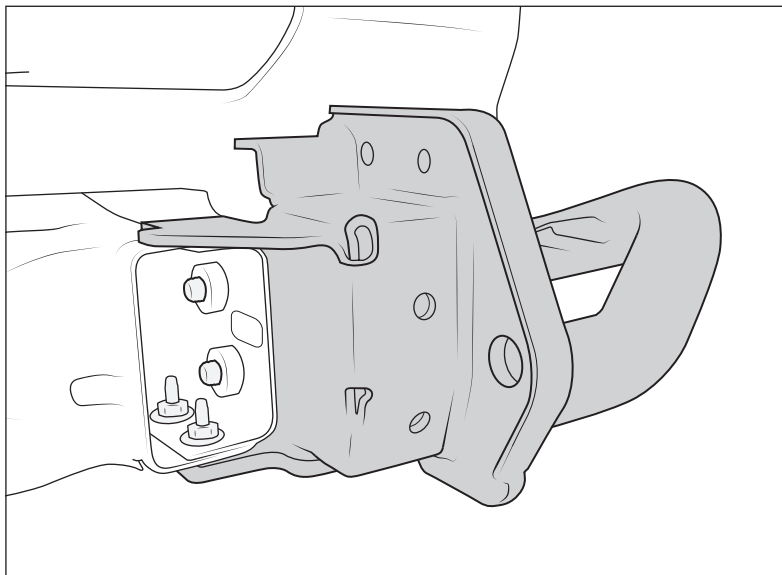

Figure 2
- D. Install the Corner Tube on the right side of the vehicle. Since there was no factory tow hook on this side, use the provided M14 nuts and washers in the bottom of the frame with the factory M14 bolts from the side of the frame. Install the supplied M14 bolts and washers into the side weld nuts on the frame but leave loose (fig. 2).